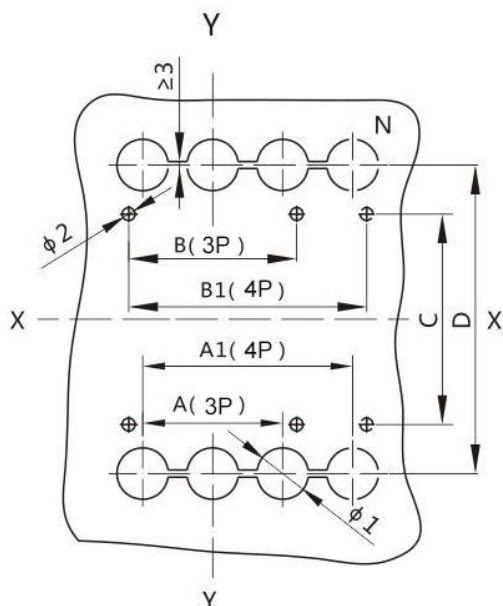

Figure 9 Hole size of mounting plate
(2) Dimensions of rear connection see Figure 9 (X-X, Y-Y is the center of 3P circuit breaker)